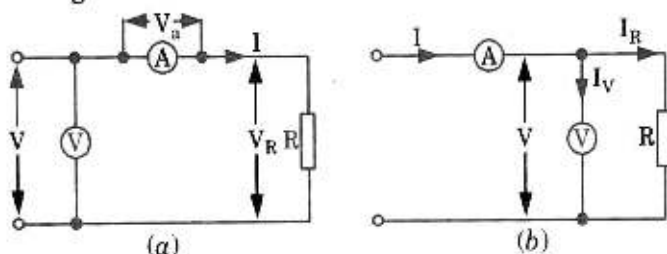

Fig. 3.2.1. Measurement of resistance by ammeter-voltmeter method.
3. Two types of connection are used in this method. The connections are shown in Fig. 3.2.1.
- a. Consider circuit of Fig. 3.2.1(a).
b. Consider circuit of Fig. 3.2.1(b).